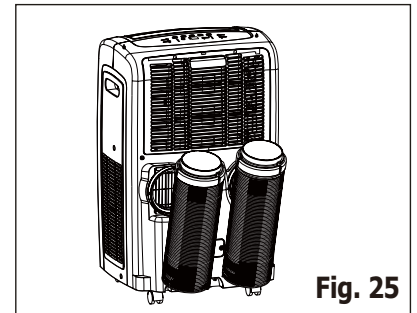

Fig. 25
4. Shorten the hoses to their original size, and put the window hose kits (hose and adaptor B) onto the hose holders as shown on fig 25.